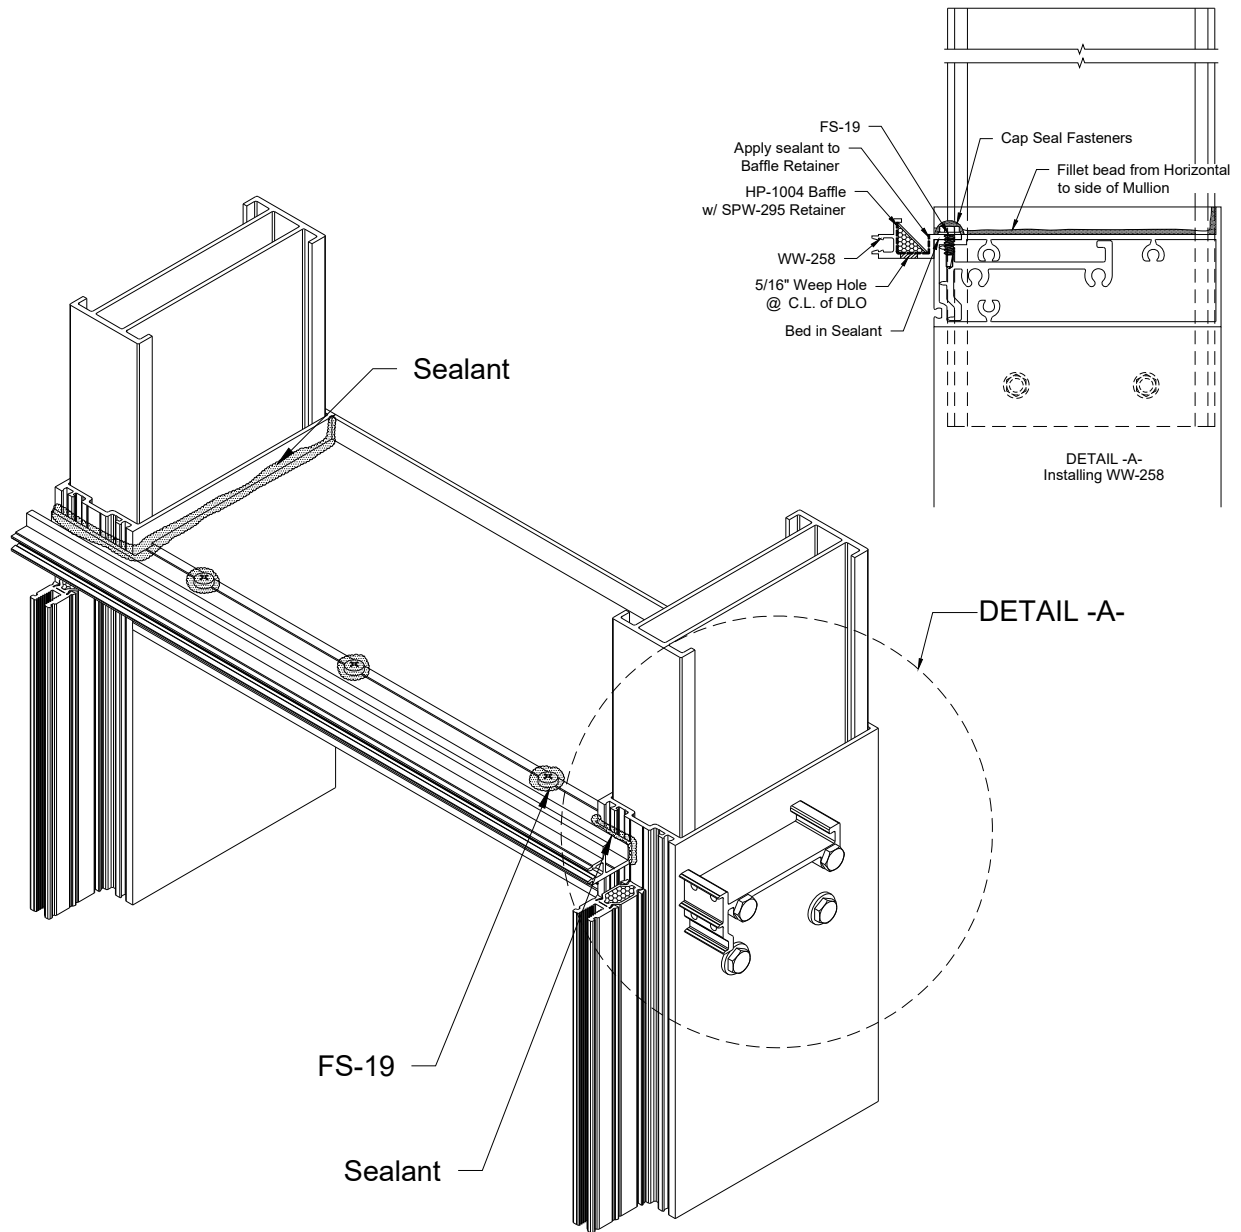

Figure 49: Horizontal Assembly
- 16.6 Install **HP-1004** Baffles, held in place using **SPW-295** Baffle Retainer. Apply a small amount of sealant to back edge of **SPW-295** to hold in place during shipment. Seal ends of Horizontal to Verticals as shown in *Figure 49*.